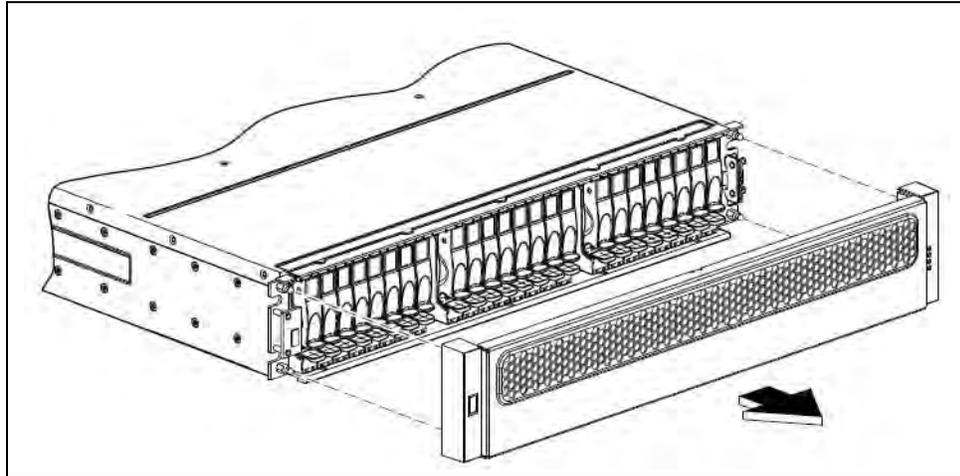

Figure 5.40 - Bezel Assembly Removal
2. While facing the front of the enclosure, place your index and middle fingers of each hand on the top of the bezel with your thumbs on the bezel's bottom. To release the bezel from the ball studs, pull the top of the bezel gently, while applying slight inward pressure below (**Figure 5.40**).